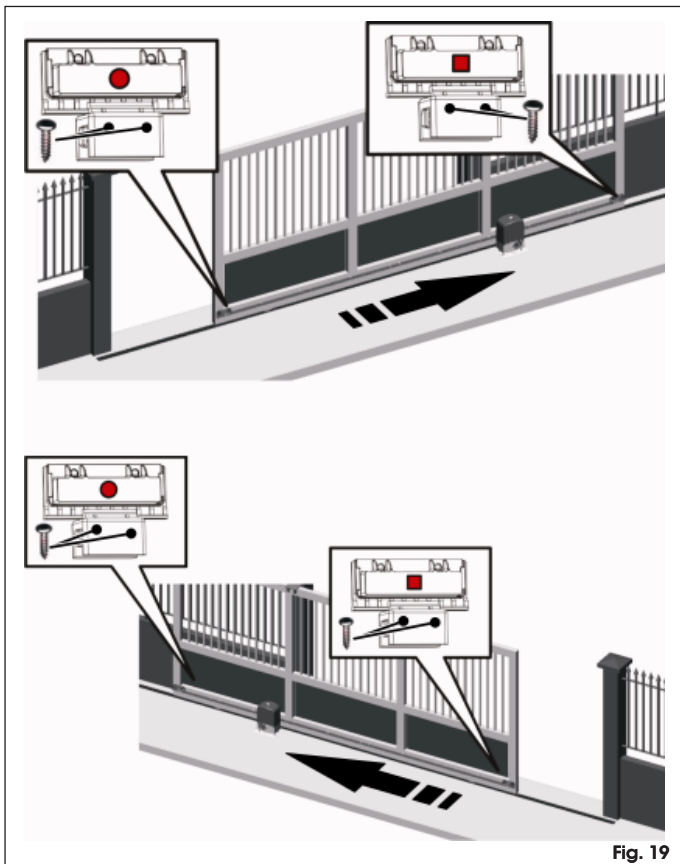

Fig. 19
⚠ Important: For correct functioning of the operator, the magnet with the circle must be positioned to the right of the motor and, vice versa, the magnet with the square must be positioned to the left of the motor (SEE FIGURE 19)
1. Assemble the two magnets as indicated in figure 19.